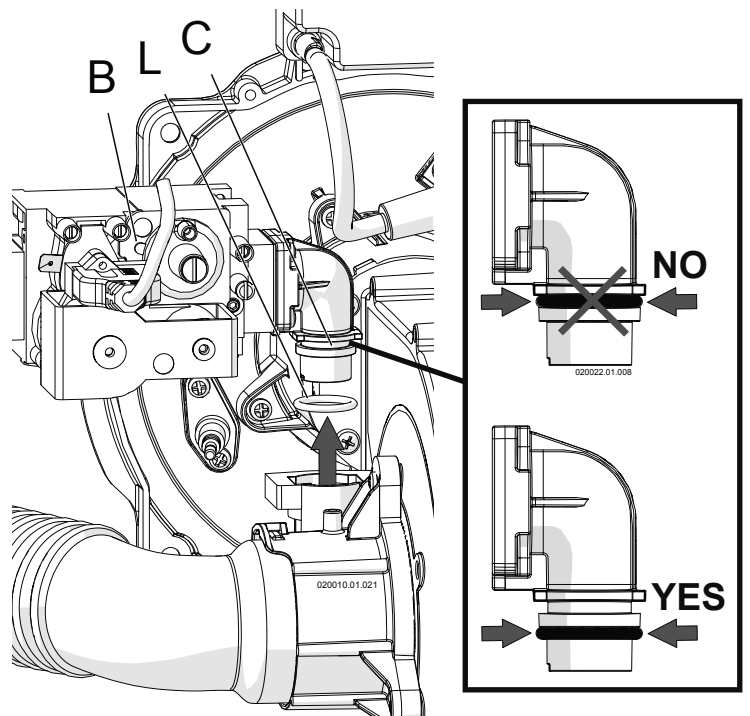

Figure 17-4 - Gas valve disassembly
- 5.- unscrew nut "H" in figure 17-4, being careful of the gasket on the connection;
- 6.- with the aid of a flathead screwdriver, remove spring "A" in figure 17-4;
- 8.- pull the gas valve out upwards, being careful of O-ring "L" (see figure 17-4);
- a - replace gasket "M" in figure 17-4, taking care to thoroughly clean the seat of said gasket, as well as the support seat.
- b - check the state of the gasket of nut "H" and O-ring "L" in figure 17-4. If they are damaged, they must be replaced.
- c - Once everything has been reinstalled, open the gas supply isolation valve and check for leaks around nut "H" in figure 17-4.